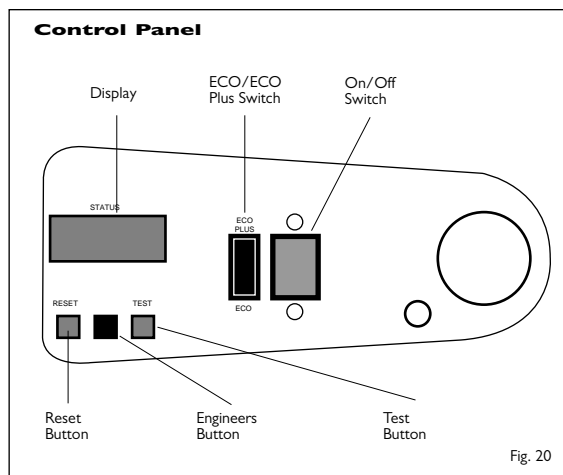

Fig. 20
- b) Switch on the boiler at the on/off switch. (See figure 20) The appliance will purge both combustion chambers with air from the burner fans and then will pulse the pumps on/off (venting) to push away any air that may be remaining in the heat exchangers.